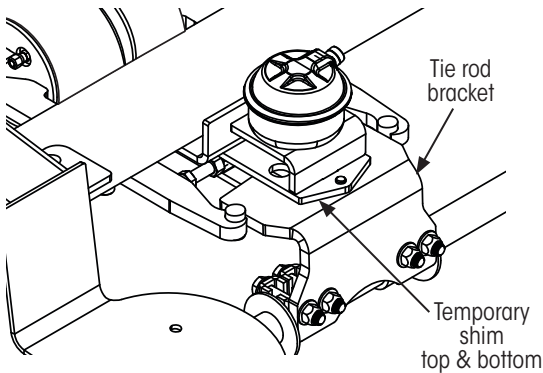

Figure 34: Aligning tie rod lock plate
3. **Insert** temporary shims above and below tie rod bracket (Figure 34) to evenly space (center) the tie rod bracket vertically in lock-straight assembly.